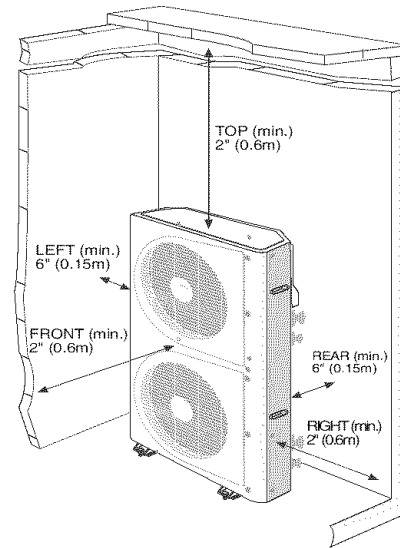

Fig. 1 — DFC2A/H318, 324 Outdoor Unit Clearances
- Use only type "G" or "C" fuses. Use single length power cable without extension. Allow sufficient space for airflow clearance on condensing units for wiring, refrigerant piping, and servicing unit. See Fig. 1 and 2 for minimum required distances between unit and walls or ceilings.